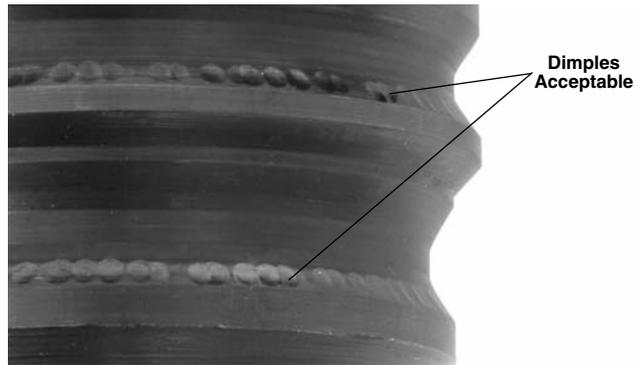

Figure 5 – Dimples In QCS Coupling Grooves
4. Inspect and maintain any other equipment being used per its instructions to make sure it is functioning properly. Inspect the interchangeable heads for wear, deformation or other issues. When inspecting the mating portion of the QCS coupling on the interchangeable heads, dimples in the grooves of the QCS coupling are normal with use and are not considered damage (*Figure 5*).